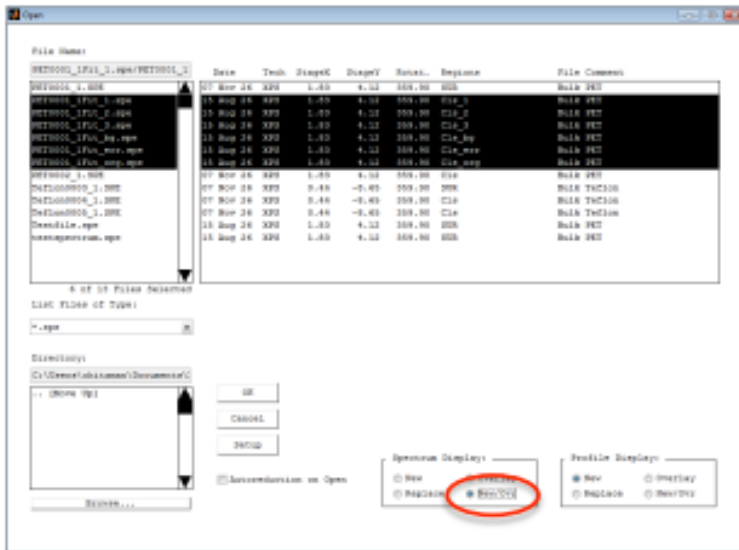

FIG 16. Opening .spe files created by FIT routine.
- In Spectrum Window, **Open (1)**. Select all the Files with the PET0001_1Fit_* name and Select **New/Overlay** to overlay all the FIT components in one file. Click **OK (FIG 16)**.